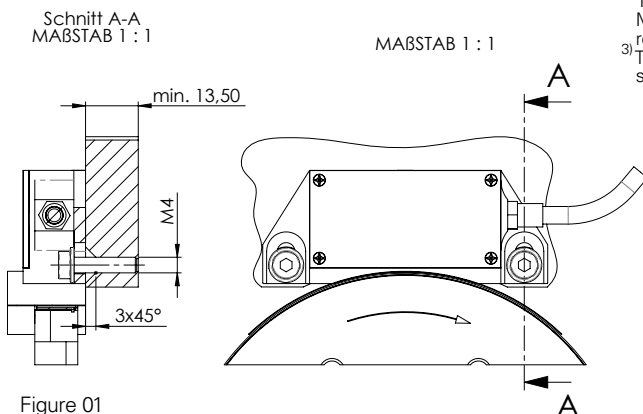

Figure 01
- ³⁾ There must be anticipate a blind hole ø 4,3 x 3mm on the stator side at the mounting holes. See Figure.01